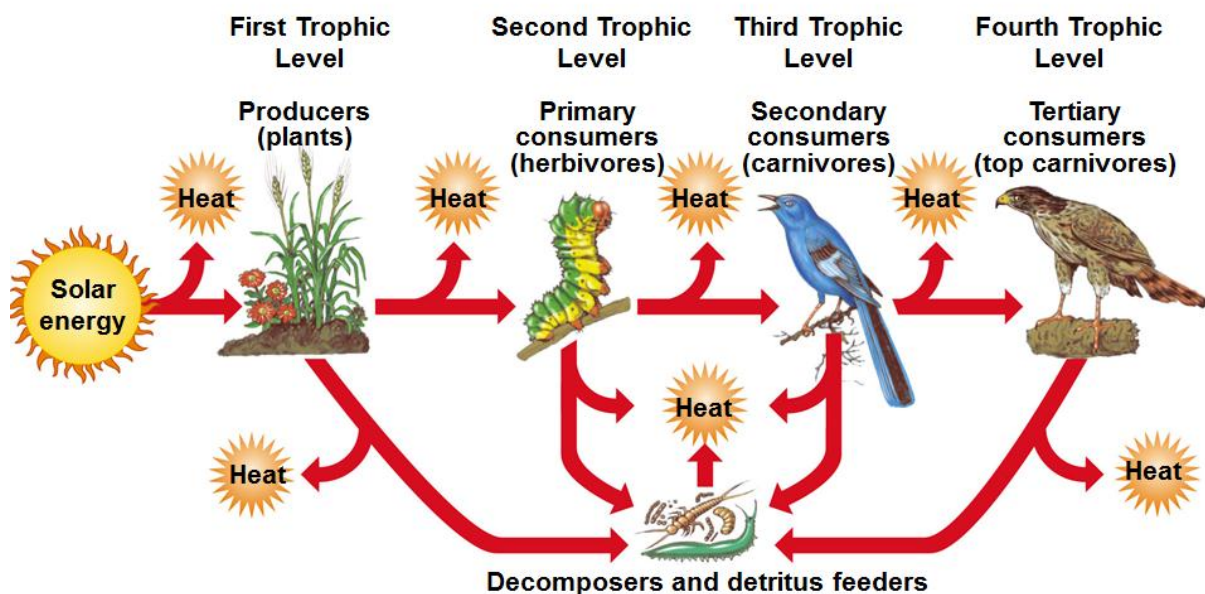

Figure 10: The energy flow through food chain.
- The arrows (Fig. 10) show how chemical energy in nutrients flows through various trophic levels in energy transfers; most of the energy is degraded to heat.